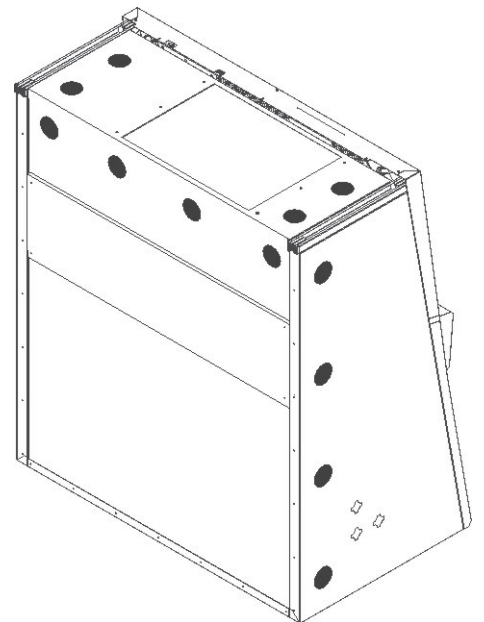

Fig. 6
1. **Fig. 6:** Make sure that the power cable is routed away from the counterweight and cable guide. For this purpose, the power cable can be secured to the cabinet ceiling using the included tie wrap anchors and tie wraps (see marking points).